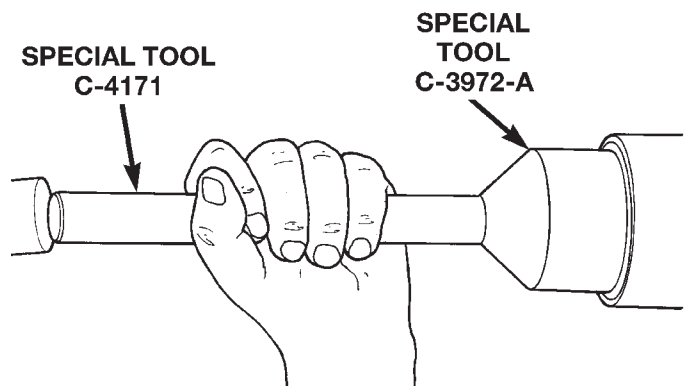

Fig. 53 Pinion Seal Installation
(3) Install pinion front bearing and oil slinger, if equipped. Apply a light coating of gear lubricant on the lip of pinion seal. Install seal with Installer C-3972-A and Handle C-4171 (Fig. 53).